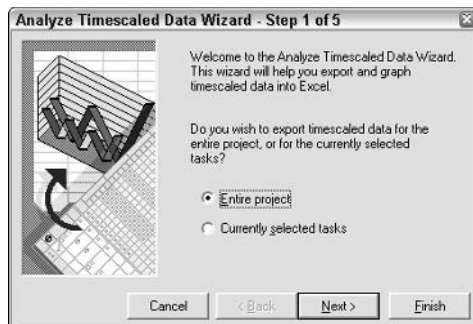

Figure 14-19: The first dialog box of the Analyze Timescaled Data Wizard.
3. Click the Analyze Timescaled Data in Excel button. Project opens the first of five Analyze Timescaled Data Wizard dialog boxes, as shown in Figure 14-19.